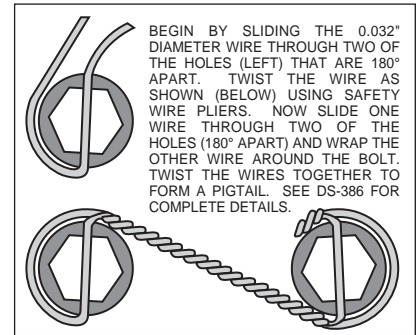

Figure 4. Safety Wire Diagram
- With the slot pointing upward and the mounting ears pointing towards the rear of the vehicle, install the caliper mounting bracket (1) to the housing flange using the stock Original Equipment Manufacturer (OEM) bolts and nuts. Stock OEM hex nuts that retain the bracket (1) should be on the wheel side of the bracket. Apply red *Loctite*® 271 to the stock OEM bolt threads and torque to OEM specifications. **NOTE:** Some brackets act as the bearing retainers, while others help locate the bearing in the axle housing flange. If the stock bearing plates are still on the axle, the caliper mounting brackets (1) should be located between the axle housing flange and the bearing retainer plate. Make sure the heads of the caliper mounting bracket insert nuts are **FACING OUTWARD TOWARDS THE WHEEL.**
- Bolt the hat (2) to the rotor (3) using lock washers (4) and bolts (5). Torque bolts (5) to 180 **in-lb**. Safety wire bolts (5) using standard 0.032 inch diameter stainless steel safety wire as shown in Figure 4. Please refer to Wilwood's data sheet DS-386 (available at www.wilwood.com/pdf/ds386.pdf) for complete safety wire installation instructions.
- Align the correct hole pattern in the hat (2) with the stud pattern on the axle flange. **NOTE:** Some OEM and after market axles come with stud sizes larger than 0.50" diameter. Verify stud size and have a qualified machine shop drill the hats to the correct size. Slide the hat/rotor assembly (2 and 3) over the wheel studs and against the axle flange face.
- NOTE:** Please reference the caution statement at the beginning of the assembly instructions. **WITH THE BLEED SCREWS POINTING UP,** mount the caliper (6) over the rotor (3) and onto the caliper mounting bracket (1) using lock washers (7) and mounting bolts (8). View the rotor through the top opening of the caliper. The rotor should be aligned in the center of the caliper. If not, adjust the caliper by using 0.032 inch shim washers (9), placing them between the caliper mounting bracket (1) and the caliper (6). Apply red *Loctite*® 271 to the mounting bolt threads (8), torque bolts to 30 ft-lb. Safety wire the caliper mounting bolts (8).
- Position the Wilwood disc brake pads (10) into the caliper (6) and fasten with cotter pin (11). Steel backing plate side of brake pad should face the caliper pistons.